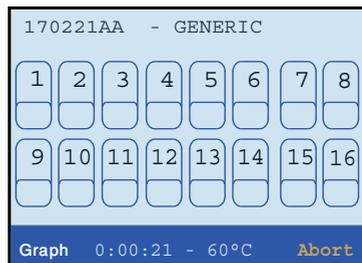

Fig. 10
3.8 During the amplification process, the screen can be switched to a histogram plot by pressing **Graph** located on the bottom left hand side of the screen (Fig 10); using the stylus, press each number on the tab screen, which represents the sample to be viewed. The activated tabs will be accented with a black border. (The graph screen can display only 8 samples at a time).